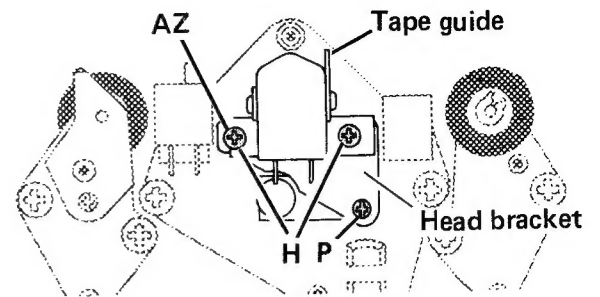
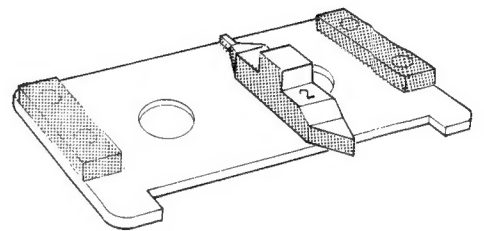

Fig. 4.13 Adjustment screws for record/playback head
Fig. 4.14 Tandberg Adjustment Plate with Tool No. 2.
The position of the record/ playback head is adjusted by turning the screws on the head bracket shown in fig. 4.13. Do not touch the adjustment screws on the head mounting plate, as it is assumed that this plate has already been correctly adjusted according to 4.2.2.2 "Erase head".
**Height and parallelity.** Insert the Tandberg Adjustment Plate and move the mounting plate inwards. Hold the mounting plate in position while placing Tool No. 2 as shown in fig. 4.14. See also fig. 4.13, and adjust with the screws H and P so that the tool fits into the tape guide on the head.
**Adjusting height and parallelity using Tandberg Test Tape No. 29.** After having inserted the cassette, move the mounting plate inwards. See fig. 4.13 and adjust with the screws H and P so that the tape fits exactly into the tape guide of the head. The front of the head should be parallel to the tape.
**Azimuth.** Insert Tandberg Test Tape No. 23 (6300 HZ). Connect a VTVM to the RADIO socket at the rear panel. Set the recorder to PLAY and adjust with the screw AZ as shown in fig. 4.13 to maximum output reading on the VTVM.